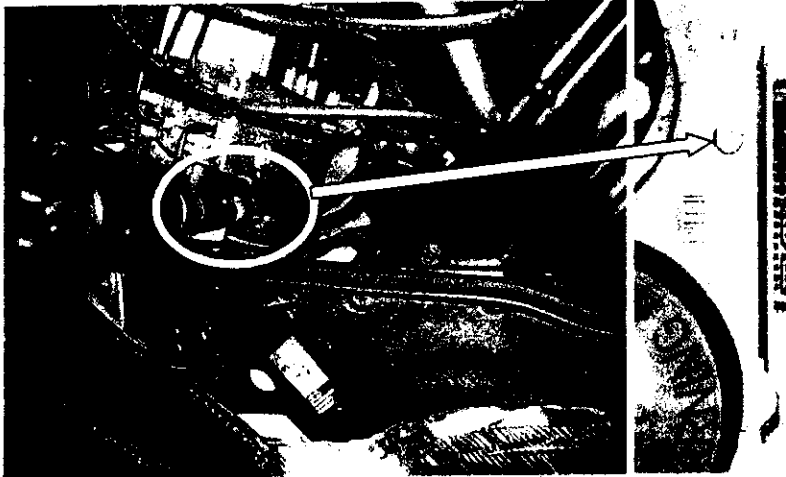
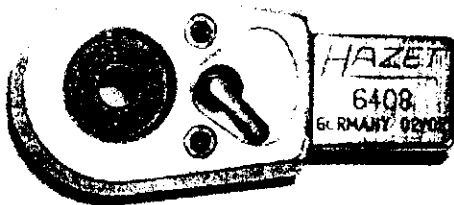

Figure 12: Attaching the bracket to the SBC hydraulic unit
Figure 13: Bit reversible ratchet
16. Attach bracket with self-tapping screw to the SBC hydraulic unit (see Figure 12). In order to prevent the M5 self-tapping screw from snapping off, the screw must be positioned **absolutely straight** and tightened with the prescribed torque of 7 Nm. To do this, use a bit reversible ratchet (e.g. Hazet 6408, Figure 13).